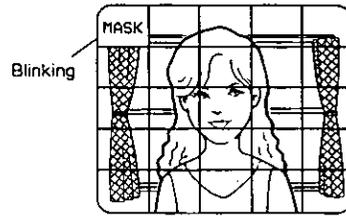

Fig. 59
- To mask this area, press the Setup Mode Button (SET UP). The word "MASK" appears in this area as shown in Fig. 59.